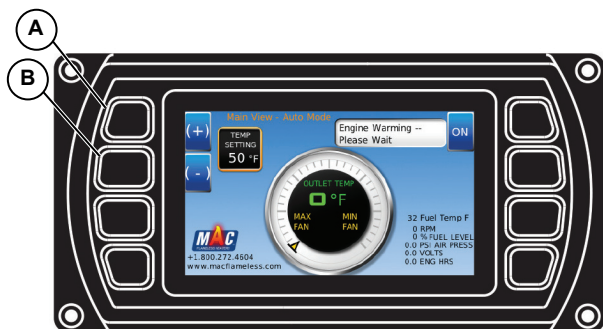

Figure 3-6. AUTO mode
- To increase output temperature, press (+) (*Figure 3-6*, item A)
- To decrease output temperature, press (-) (*Figure 3-6*, item B)